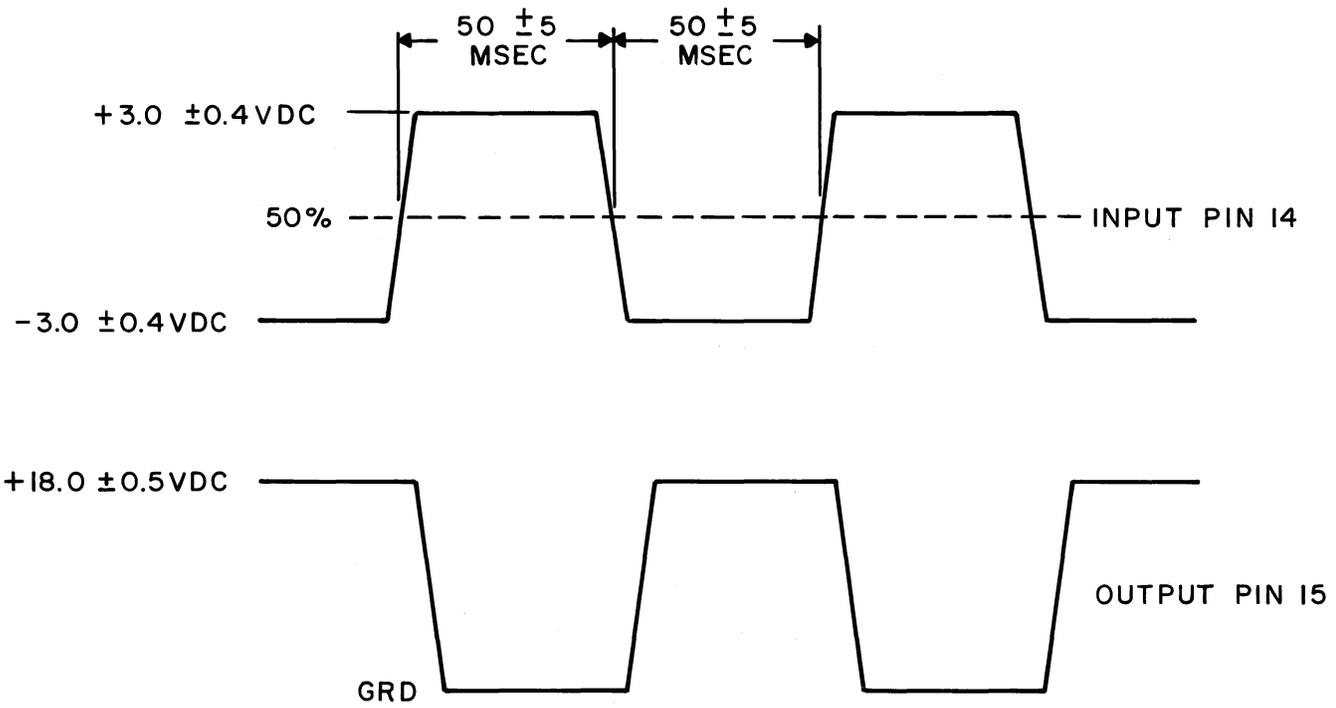

Fig. 46 - (Remote Circuit Card Test)
- (5) The input wave form at terminal 14 and the output wave form at terminal 15 shall be as specified in Fig. 46. No time base measurements need be made.